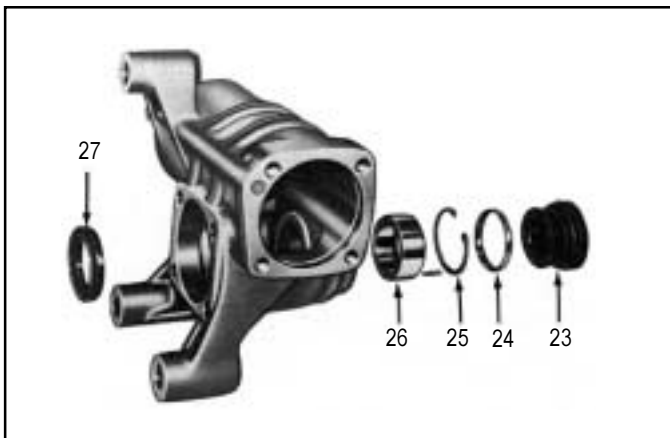

FIGURE 41
Install the seal(27) on tool 297674 so that the seal's lip groove rests against the large diameter of the tool. Next install the thick bearing spacer on the tool making certain the flat side of the bearing spacer rests against the seal. (See Figures 41 E, F & G) Insert the tool with the parts installed on it through the side cover opening and using a mallet drive the seal into place.